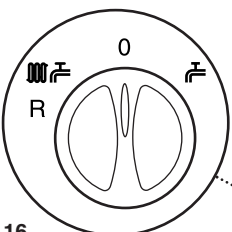

Fig. 16
1. **For short periods:** Turn the selector switch to the Off position (Fig. 16).
2. **For long periods:** Turn off the selector switch (Fig. 16), electricity and gas supplies.